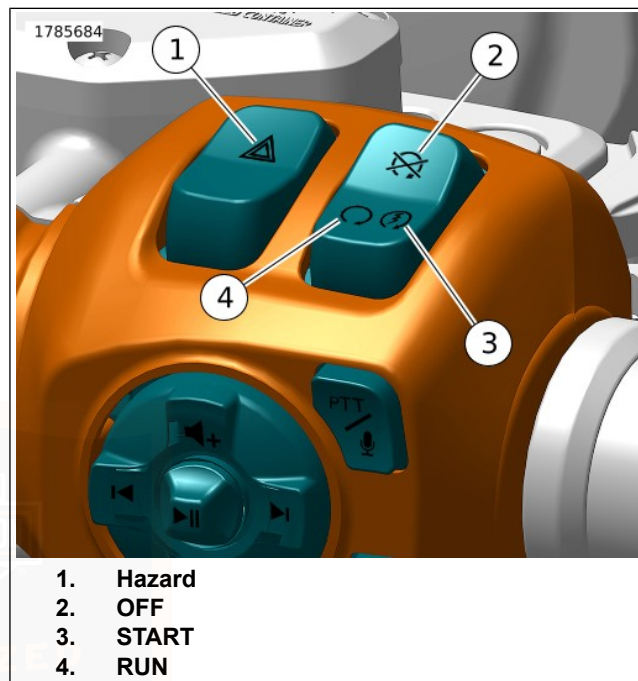

Figure 53. RHCM: OFF/RUN/START and Hazard Buttons
1. See Figure 53. With the security system fob present, press the OFF/RUN/START switch to RUN (4). Do not roll the throttle.
5. Press and release the START (3) button to start the motorcycle.
2. See Figure 53. Set the OFF/RUN/START switch to OFF (2).
1. See Figure 53. Set the engine OFF/RUN/START switch to RUN.
1. See Figure 53. Push the OFF/RUN/START switch to OFF (2).